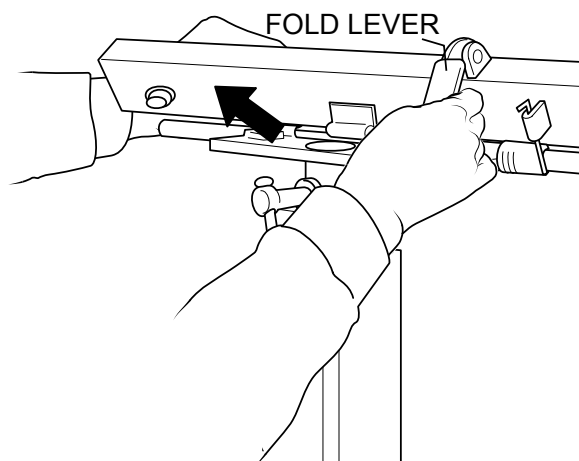

Figure 7. Raising Lamp Stand
1. Support the lamp stand with one hand and pull up the fold lever with the other hand. The lever will spring up. See Figure 7.